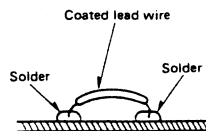

Fig. 18
1. If the chip jumper is removed, connect a coated lead wire to the part. (See Fig. 18). Chip jumper is marked with "J" on the printed circuit board.